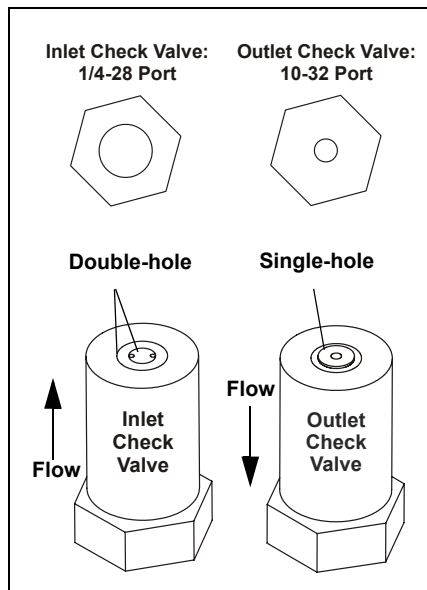

Figure 9-3. Check Valve Assemblies
**NOTE** The *inlet* check valve assembly housing has a 1/4-28 port; the *outlet* check valve assembly housing has a smaller, 10-32 port (see Figure 9-3).
10. Inspect the new inlet check valve assembly (P/N 045722) to verify that the double-hole end of the cartridge (see Figure 9-3) is visible.
11. Inspect the new outlet check valve assembly (P/N 045721) to verify that the single-hole end of the cartridge is visible (see Figure 9-3).